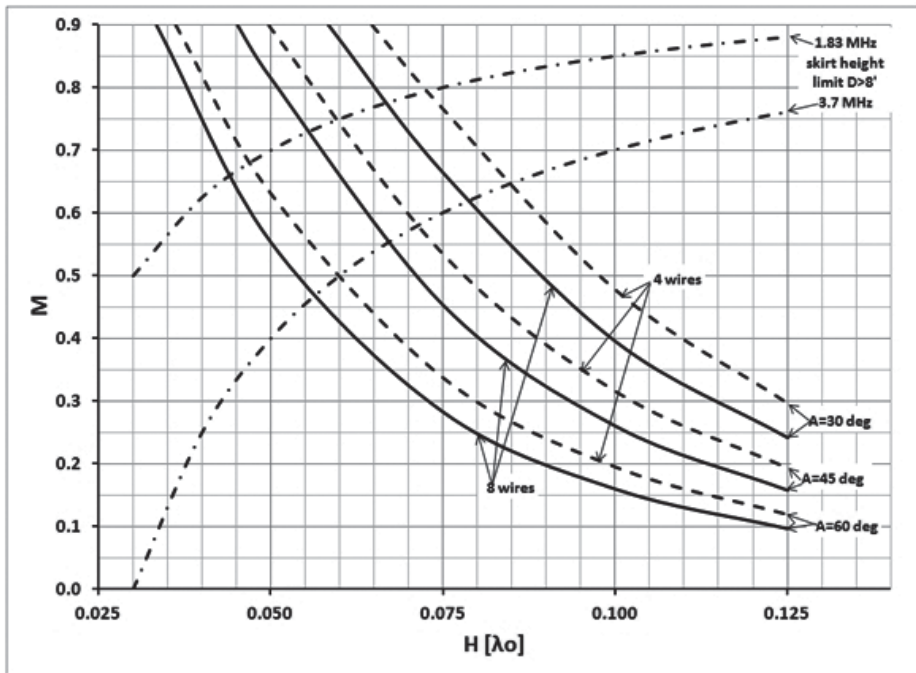

Figure 10 — Values of M for resonance when using 4 or 8 umbrella wires and a skirt.
Figure 10 shows the relationship between H and M for resonance when using 4 or 8 wires for three apex angles (A).
on H, A and the number of umbrella wires, but as Figure 10 shows we can do pretty well for antennas down to $H \approx 0.04\lambda_0$ or a bit shorter on 160 meters if we use a large value for A and more wires in the umbrella. At 1.83 MHz, $0.04\lambda_0 = 21.5$ feet, which is definitely a “short” vertical. Figure 10 shows that increasing the number of wires in the hat increases its effectiveness, but the point of vanishing returns sets in quickly. The
There is an important limitation on M, especially for small values of H: *the distance above ground of the lower edge of the umbrella*. Because there can be very high potentials on the skirt you must *keep the skirt out of reach*, at least 8 feet above ground so you can’t touch it. This limitation is indicated in Figure 10 by the dash-dot lines. There is one set of limits for 1.83 MHz and a second for 3.7 MHz. You are limited to values of M below these boundary lines.